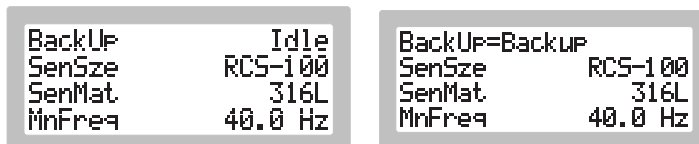

Figure 51: Backup triggered from menu
5. When in editing mode, a cursor will appear under the enumeration text shown to the right of the parameter name. Use **Up** or **Down** to switch the entry from *Idle* to *Backup* (see Figure 51).